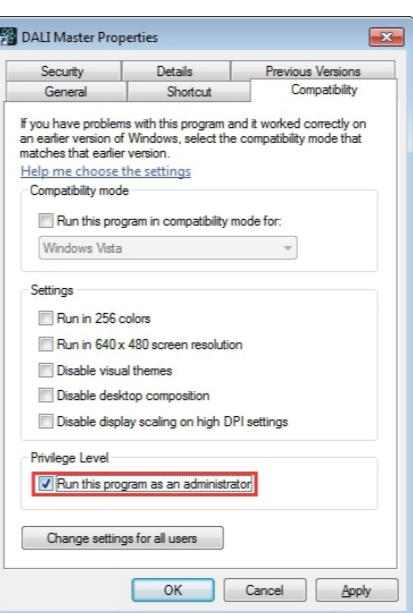

Figure 7 Run this program as an administrator
Step 1: Right click the desktop icon to check the properties, switch to "Compatibility" tab, and check item "Run this program as an administrator" as shown in **Figure 7**.
Step 2: Click "OK" to complete the setting as shown in **Figure 7**.